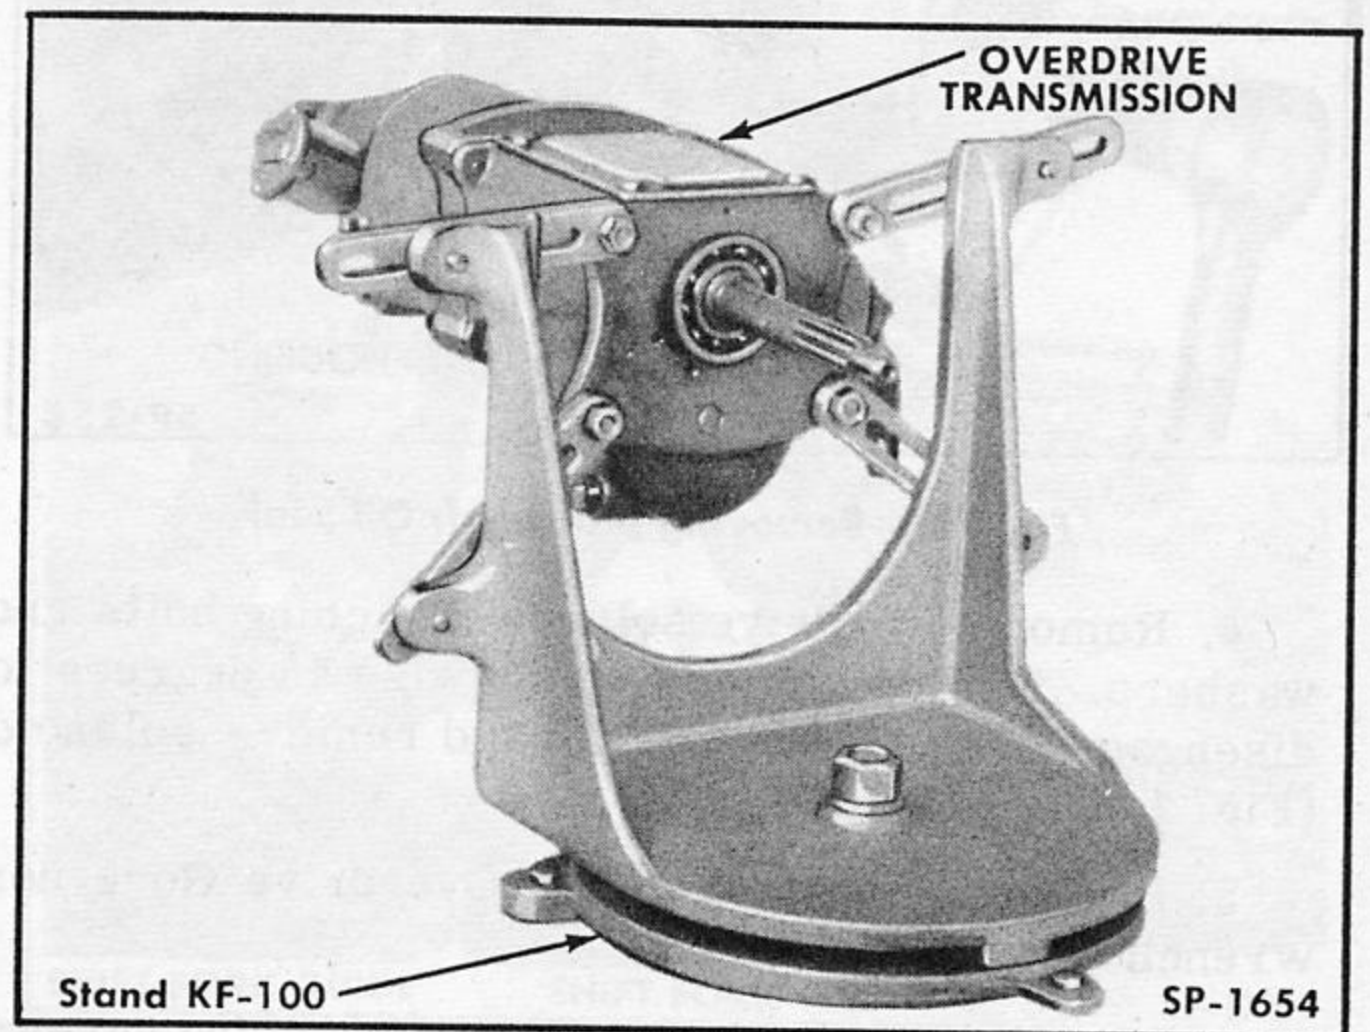

Fig. 144—Overdrive Transmission in Fixture
1. Mount transmission and overdrive on Transmission Repair Stand KF-100 (Fig. 144), or some other suitable holding fixture.